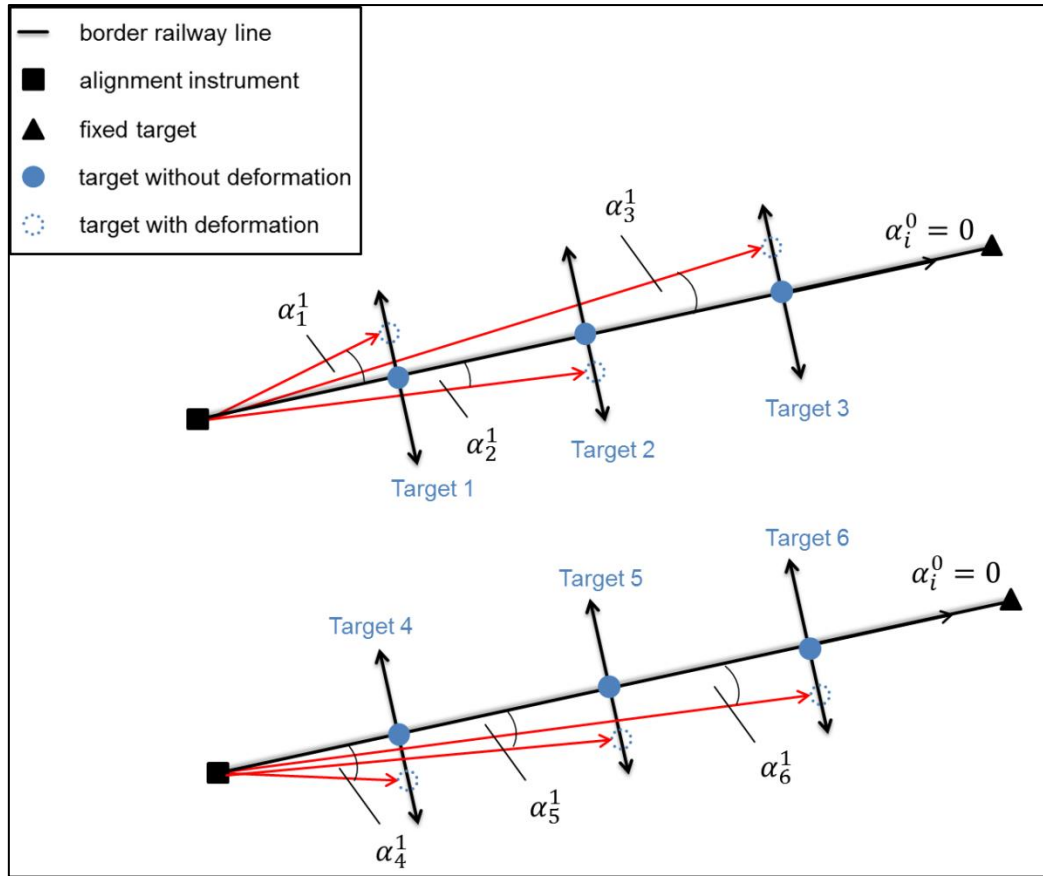

Fig. 2: Geometric situation related to alignment measurement of the left and right (border) railway line
- b) For long-term monitoring of the railway lines, high-precision GNSS receivers were used to determine the position coordinates of the targets 1 to 6 (see Figure 2). The target 2 should be tested for movements using the following information. Please transform its geographic coordinates (latitude  $\varphi$  and longitude  $\lambda$ ) into the cartesian coordinates ( $x, y, z$ ) using the formulas above and perform a test for localization of coordinate movements.